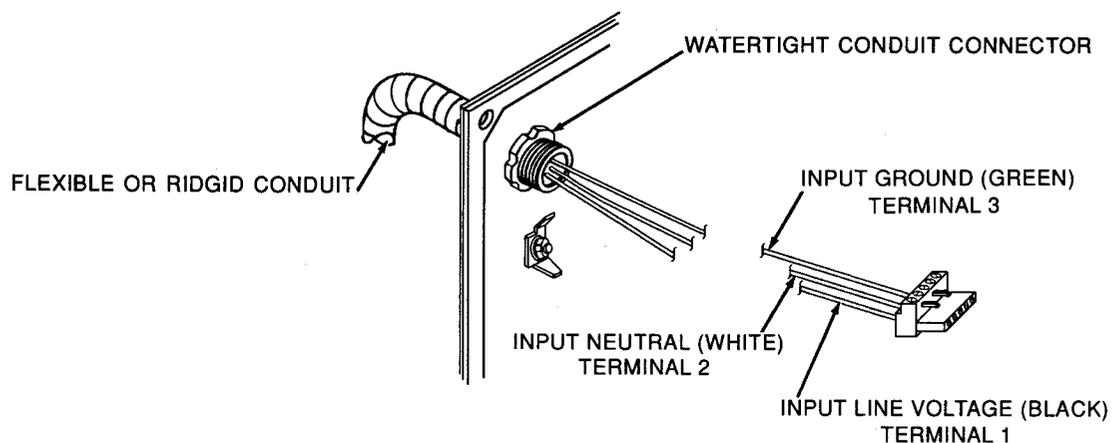

Figure 7 - Input Wiring For Stand-Alone Units
2. Refer to Figure 7. As stand-alone unit: